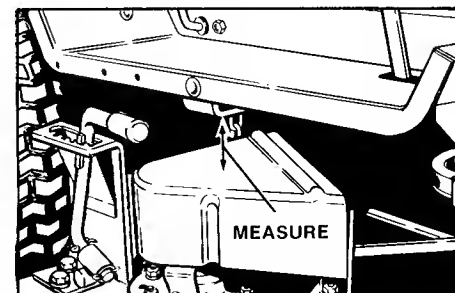

Figure 46. Measurement - 42" Mower
2. Measure the distance between top of pulley cover and bottom of upstop bracket (figure 46). If small lift lever (E, figure 7) is used, the measurement should be 2". If large lift lever (B, figure 7) is used, the measurement should be 1-13/16".